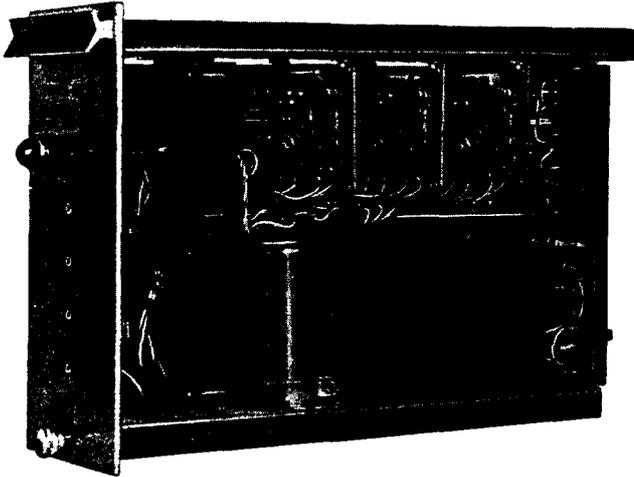

Fig. 2—Power Supply Module
2.01 Remove the power modules (Fig. 2) from position 8 of the units. Verify that the panels on the rear plates of the modules are correctly set for the main utility power source with which the equipment is to be used. All units are factory set at 250 volts to prevent damage to the equipment by the inadvertent application of the high-supply voltage.